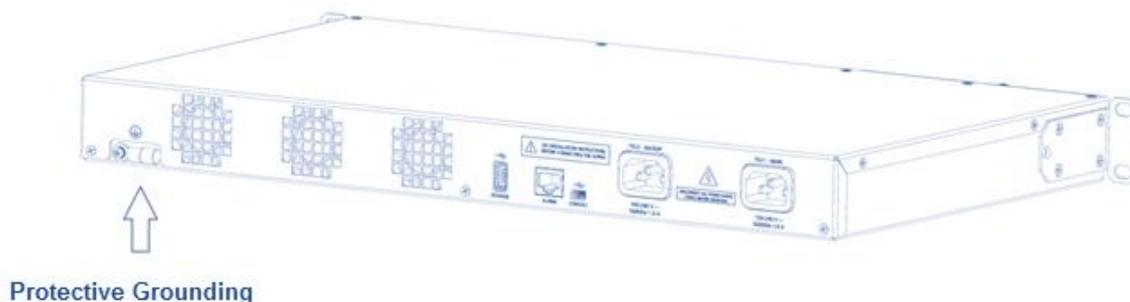

Figure 18 - Protective Grounding in DM4170
Step 1	<ul style="list-style-type: none"> <li>▪ Locate the grounding connector located on the back of the switch as shown in FIGURE 18 - PROTECTIVE GROUNDING IN DM4170 Protective Grounding; remove the connector with a</li> </ul>